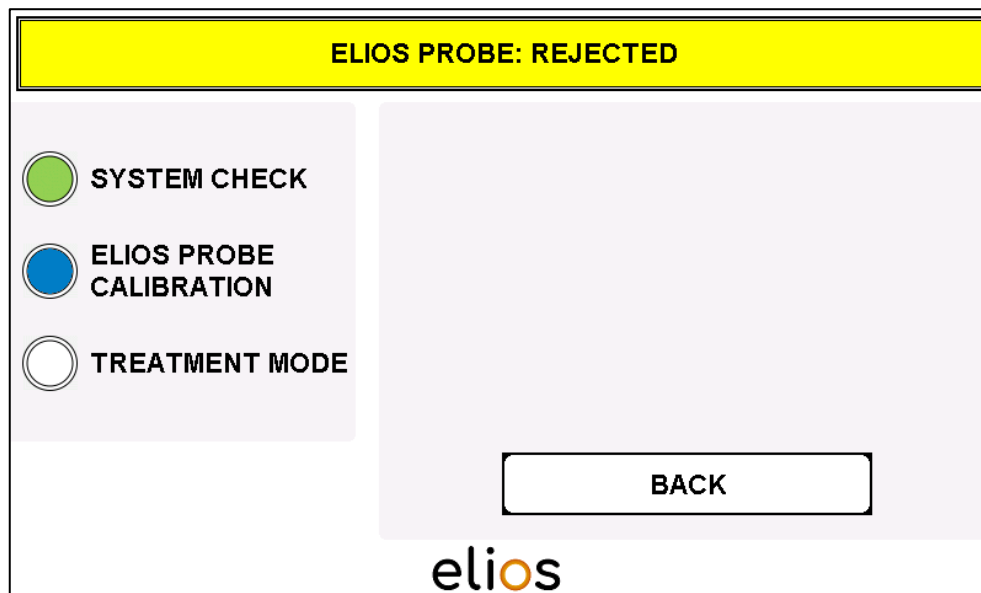

Fig. 4-8: Fiber recognition – ELIOS PROBE: REJECTED
- The software recognizes already used and resterilized fibers and prevents their use. The notification “**ELIOS PROBE: REJECTED**” is shown and it is not possible to continue in the program (Fig. 4-8).
- The previous menu is reached again by pressing **“BACK”** (Fig. 4-8).